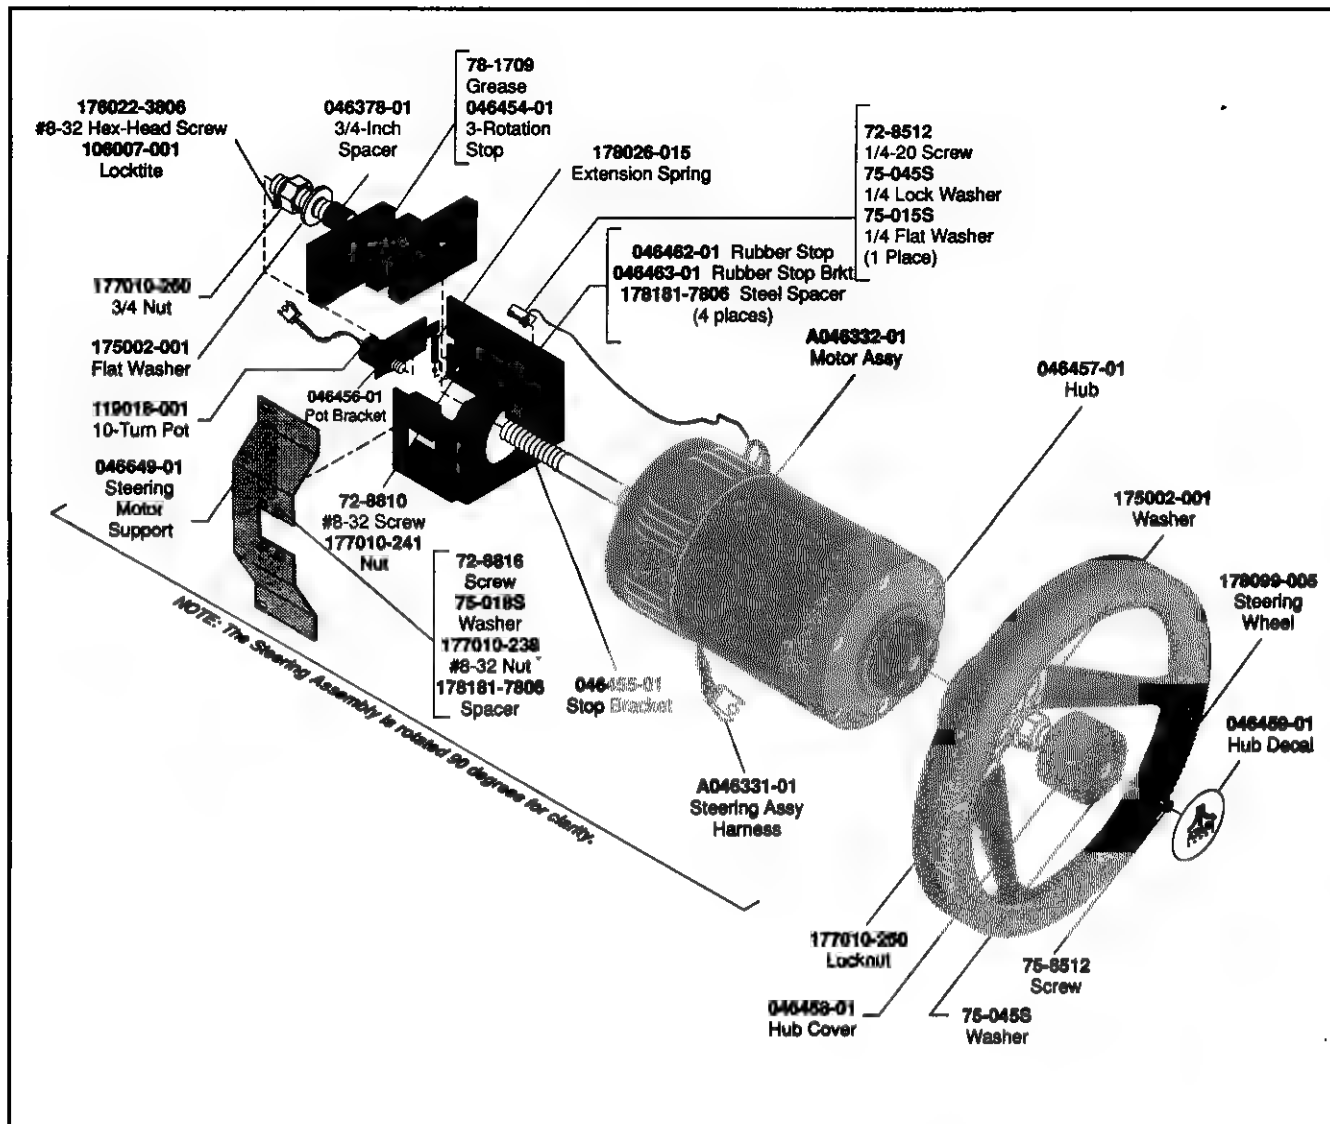

Figure 3-5 Maintaining the Steering Wheel
2. Grease the large threads on the stop assembly. See Figure 3-5.
2. Loosen the set screw that holds the potentiometer shaft in place. See Figure 3-5. Remove the nut that holds the potentiometer in the potentiometer bracket. Take out the potentiometer. If the small spring that holds the potentiometer bracket on the stop bracket is broken, replace it.
2. Carefully peel off the Atari Games decal on the hub of the steering wheel. The steering assembly is shown in Figure 3-5.
23. Install the steering wheel on the steering hub. Put the hole in the steering wheel over the alignment stud on the hub. (See Figure 3-5.)